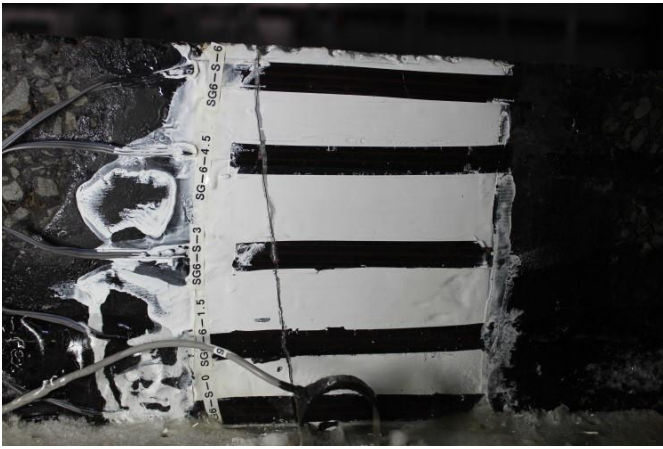

Figure 1. South outer vertical edge
- The South outer vertical edge is cracked, as shown in Figure 1.